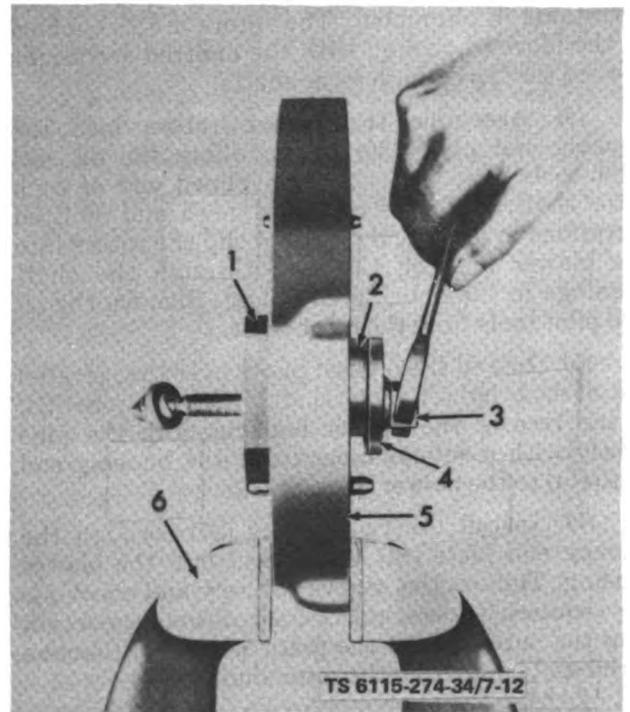

Figure 7-12. Oil Seal Installation
(1) Support the housing end plate (5, fig. 7-12) between the soft jaws of a bench vise (6) and install the two oil seals (2) with the puller and seal installing plate (4). Back out the puller bolt (3) as far as possible and push the bolt through the bearing bore until the puller plate (1) rests against the outer (ribbed) face of the housing end plate. With the seal edge toward the bearing, slide the oil seal (2) over the head of the puller bolt and start it into the bearing bore by hand. Slip the oil seal installing plate (4) over the puller bolt, next to the head of the bolt.